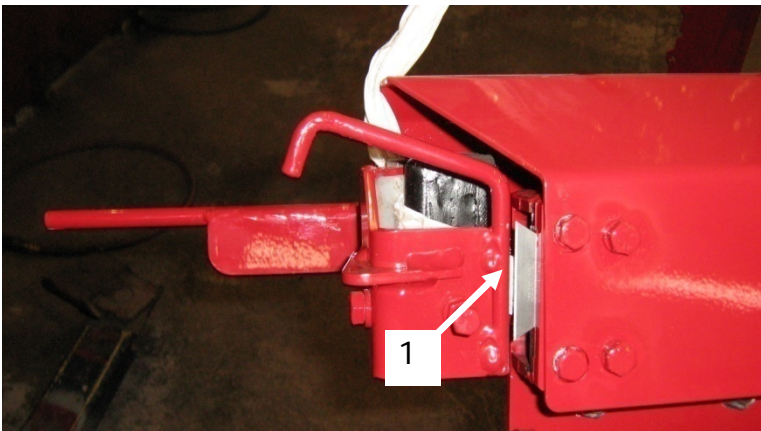

Figure 5.4 Plastic film cutter blade
-First, check the condition of the steel blade (1) and replace it as needed (Figure 5.4).